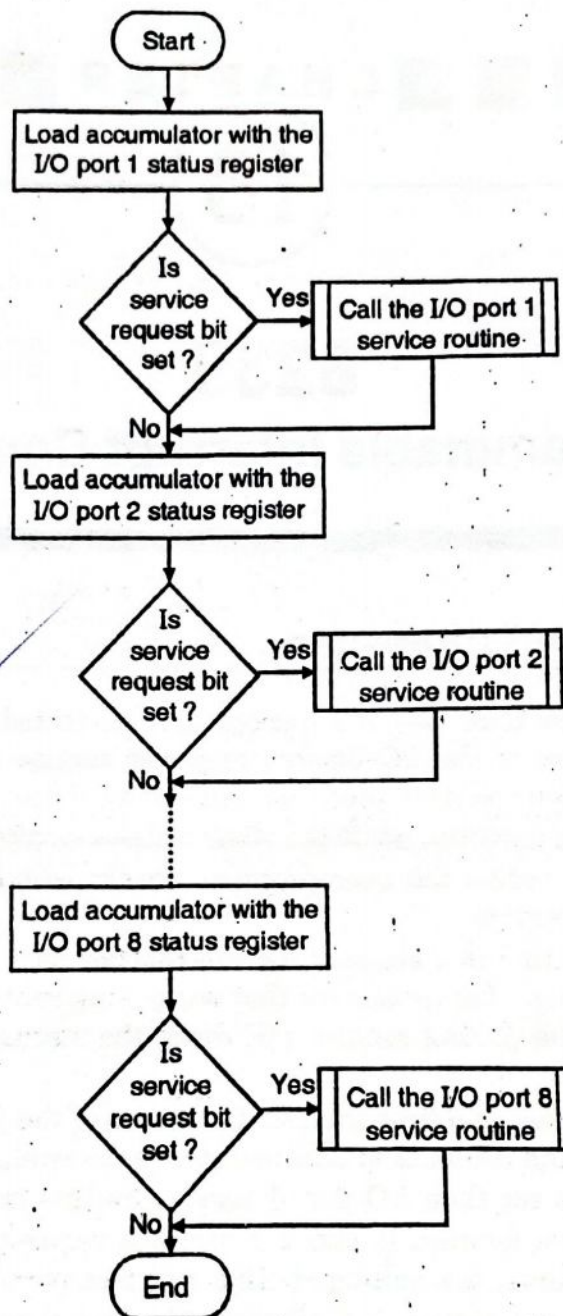

Fig 18.1.1 : Polling sequence
- The polling routine will first transfer the status of the I/O port 1 to the accumulator. It then checks the contents of accumulator to determine if the service request bit is set. If the bit is set then I/O port 1 service routine is called, otherwise the polling routine will move forward to check if port 2 is requesting service. On completion of the service to port1, the polling routine will test port2. The process is repeated till all the 8 ports are tested and all the I/O ports those are demanding service are processed. On completion of the polling routine, the microprocessor will resume with the execution of the program. Fig. 18.1.1 shows the sequence for polling routine.